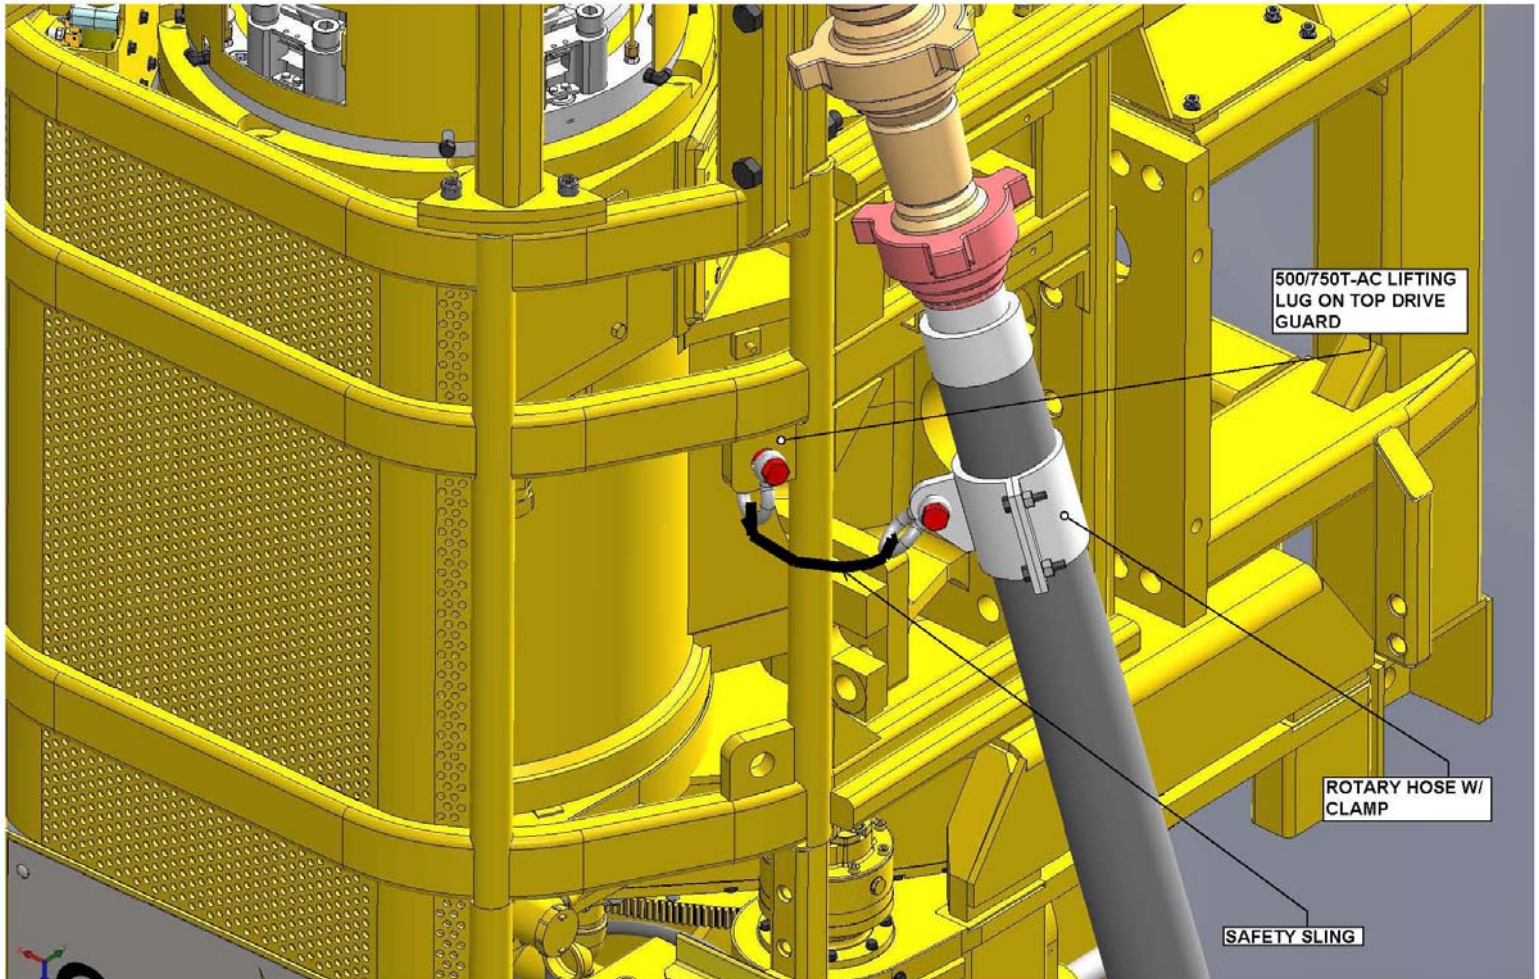

Fig. 2
1. Install one end of sling to shackle and attach to lug on Top Drive Guard. (Sling and shackle supplied by customer.) See Fig. 2.
2. Install other end of sling and shackle on the Rotary Hose Clamp. Final assembly should be as shown in Fig. 2.